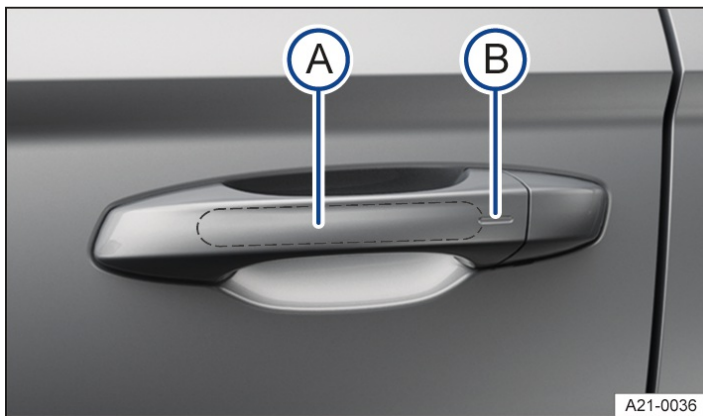

Fig. 2 In the door handle: sensors.
1. Touch the sensor on the inside of the driver or front passenger door handle → Fig. 2 Ⓐ.
3. Touch the sensor on the outside of the driver or front passenger door handle → Fig. 2 Ⓑ.
2. Then touch the sensor on the outside of the door handle once within 5 seconds → *Fig. 2* . Do not put your hand around the door handle when doing this.
1. Place a finger on the sensor of the driver or front passenger door handle for a few seconds → *Fig. 2* .